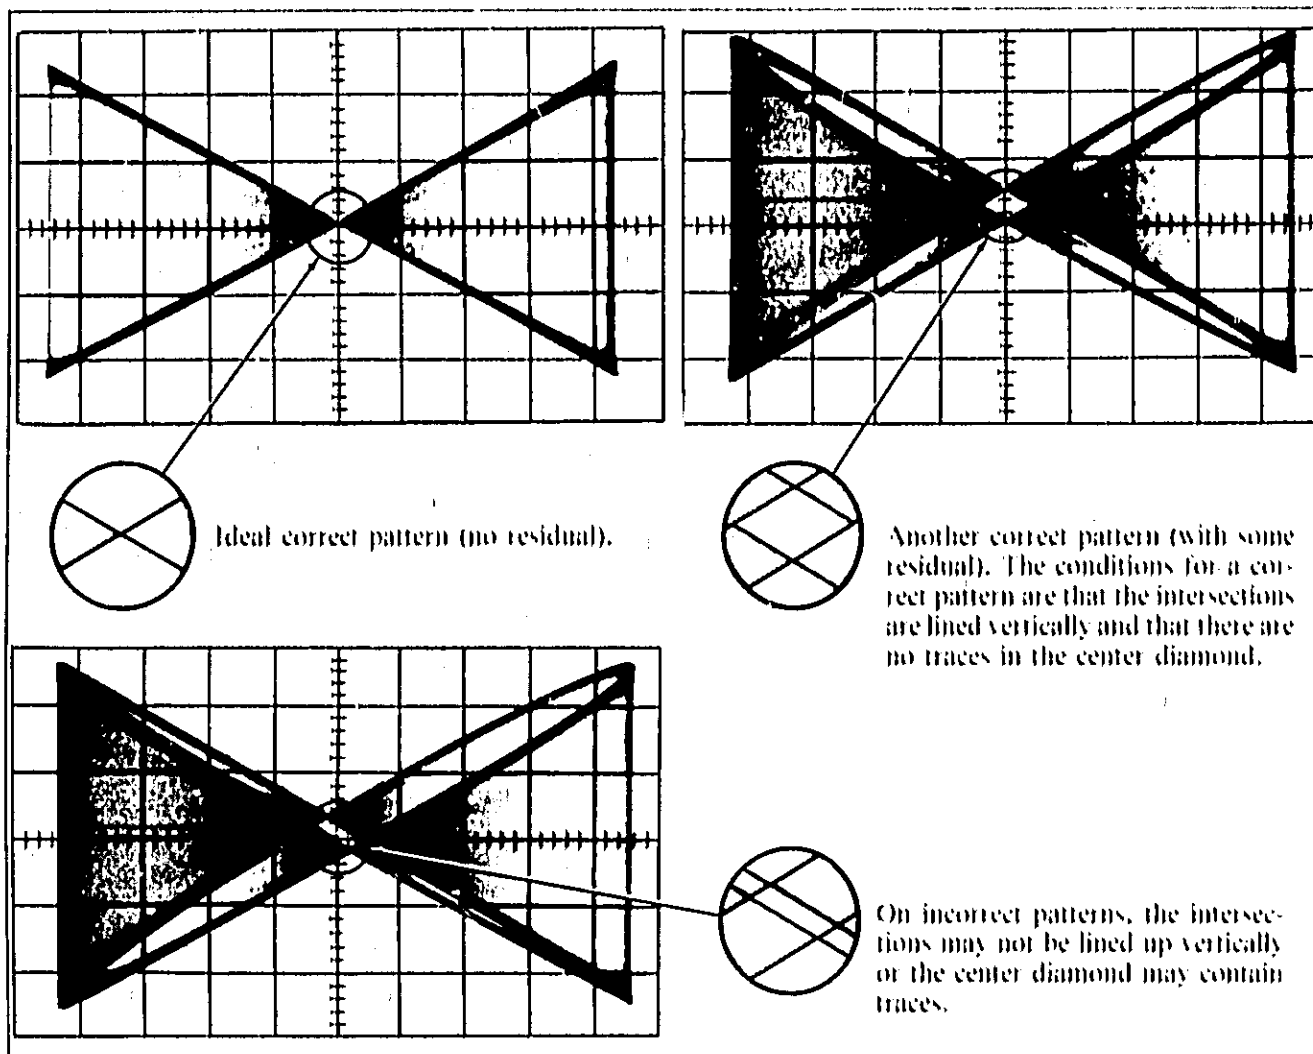

Figure 5-7. Detector Phase Display
e. Adjust the oscilloscope's vertical and horizontal input level adjustments until a pattern similar to the ones in Figure 5-7 is displayed.
f. Turn the slug of L7 until the pattern looks like one of the correct patterns shown in Figure 5-7. If there is a diamond in the center of the pattern, make sure the diamond contains no traces.
5-76. Set up equipment as described in Paragraph 5-51. Compare the oscilloscope display to Figure 5-7.